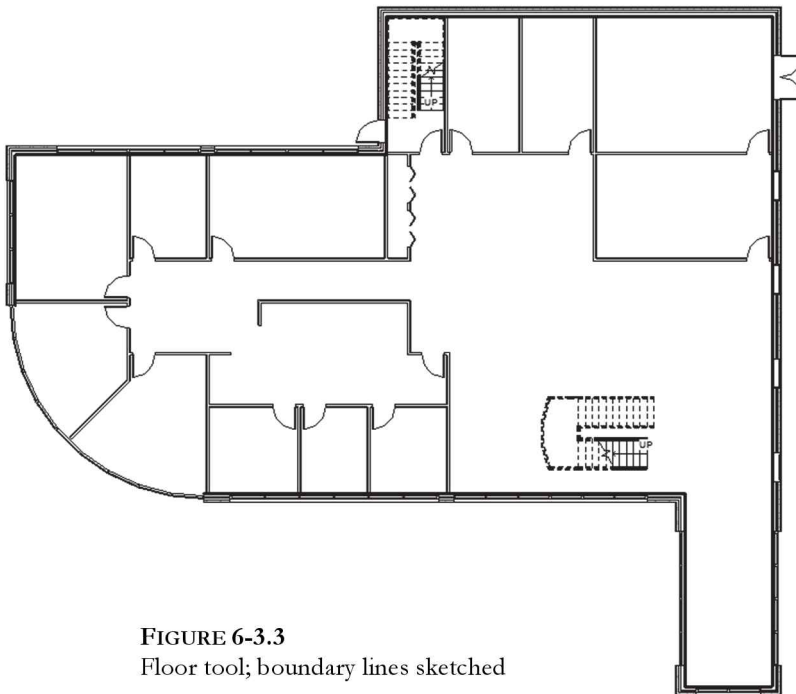

FIGURE 6-3.3
8. Select the interior side of each exterior wall, with the exception of the curtain wall (do not select it yet). See Figure 6-3.3.